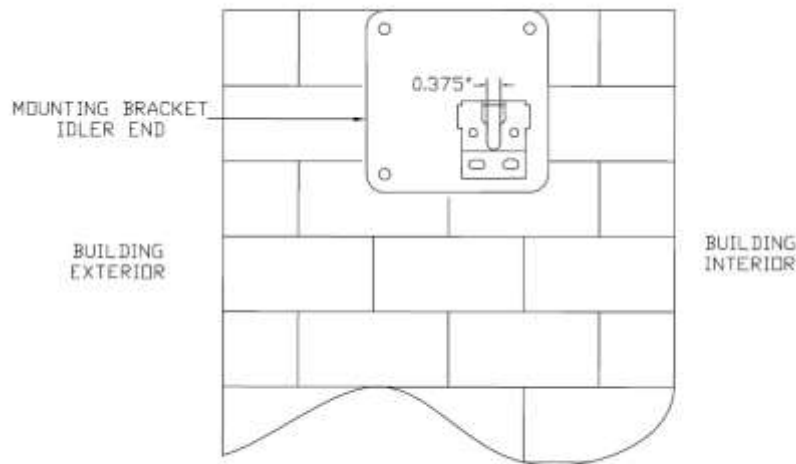

FIGURE 2
5. Mount the bracket at the top of the jamb, centered on the doorjamb as shown in **Figure 2**.